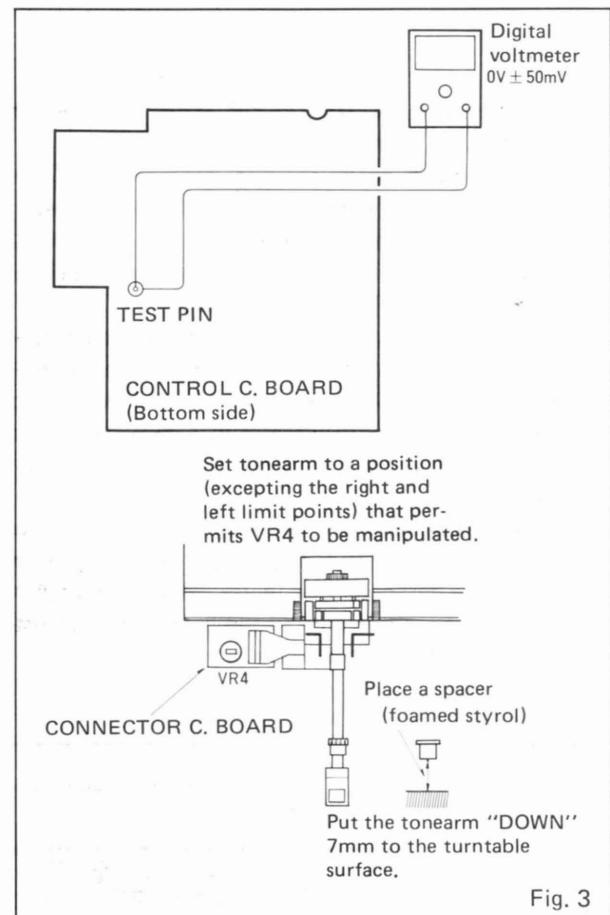

Fig. 3
- 1) Using the DOWN switch, set the tonearm to a position brought down about 7 mm, as shown in Fig. 3.